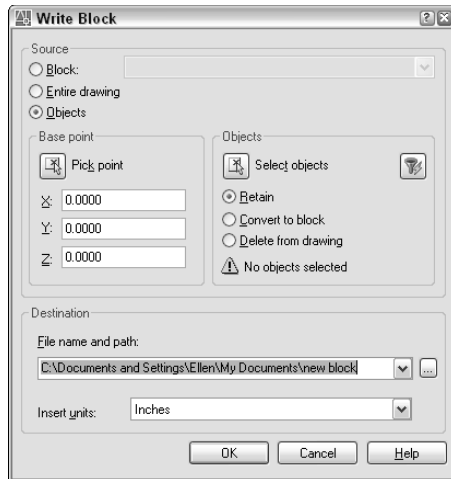

**Figure 18-5:** Use the Write Block dialog box to save a block as a separate drawing file.
2. In the Write Block dialog box, shown in Figure 18-5, choose the location (drive and folder) for the file.